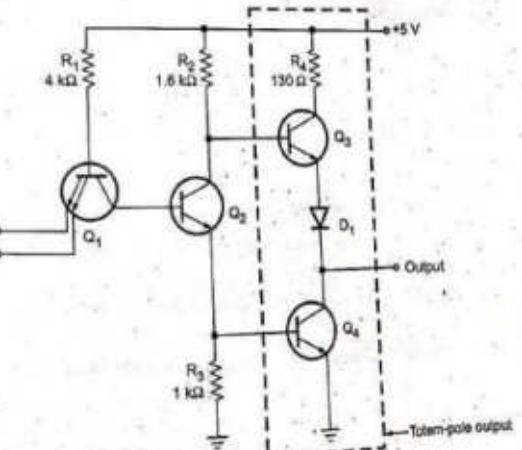

Fig. 3.3.3 Two input NAND gate with totem-pole output
- Fig. 3.3.3 shows an highlighted output configuration. Transistor  $Q_3$  and  $Q_4$  form a totem-pole. Such a configuration is known as active pull-up or totem pole output.